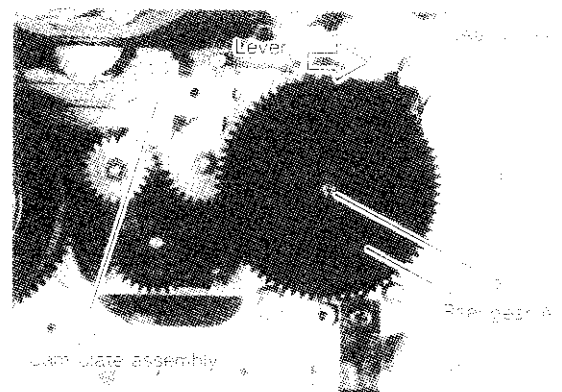

Fig.3-12-1
- (1) Remove the cassette housing.
- (2) Take off the cut washer (Fig. 3-12-1) which is fixing the gear TU1-A, and remove the gear TU1-A from the main plate.
- (3) Take off the cut washer (Fig. 3-12-1) which is fixing the reel gear A.
- (4) Take the reel gear A off the main plate while moving the lever (for attaching the right side of the spring) of the cam plate assembly shown in Fig. 3-12-1 a little to the right.
- (1) Make sure that the thrust washer is attached to the reel gear A mounting shaft.
- (2) Move the lever (for attaching the right side of the spring) of the cam plate assembly shown in Fig. 3-12-1 slightly to the right.
- (3) Attach the reel gear A to the main plate so that the lower gear of the reel gear A is meshed with the gear of the reel gear assembly and then fix with the washer (Fig. 3-12-1).
- (4) Make sure that the thrust washer is attached to the gear TU1-A mounting shaft.
- (5) Attach the gear TU1-A and fix with the cut washer (Fig. 3-12-1).
- (6) Attach the cassette housing.